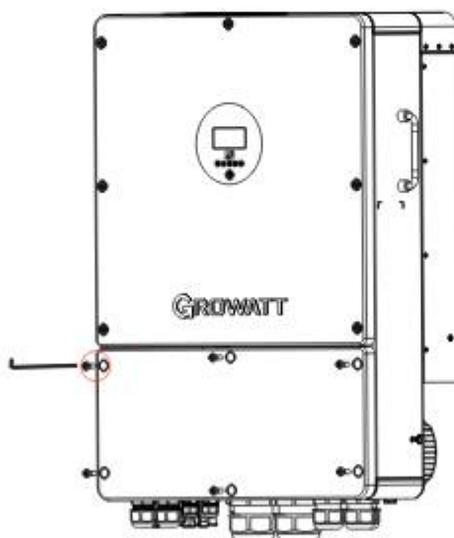

Fig 6.9 Lower cover
1) Open the lower cover and the cover position is shown in Fig 6.9;